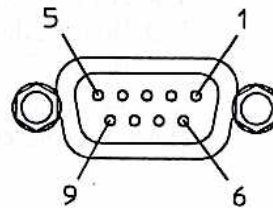

Figure 2-4. RS-232 Connector Pins (Rear Panel View)
2. Connect pin 2 to pin 3 on the "RS-232" port. Refer to Figure 2-4. These are nine conductor subminiature D connectors.